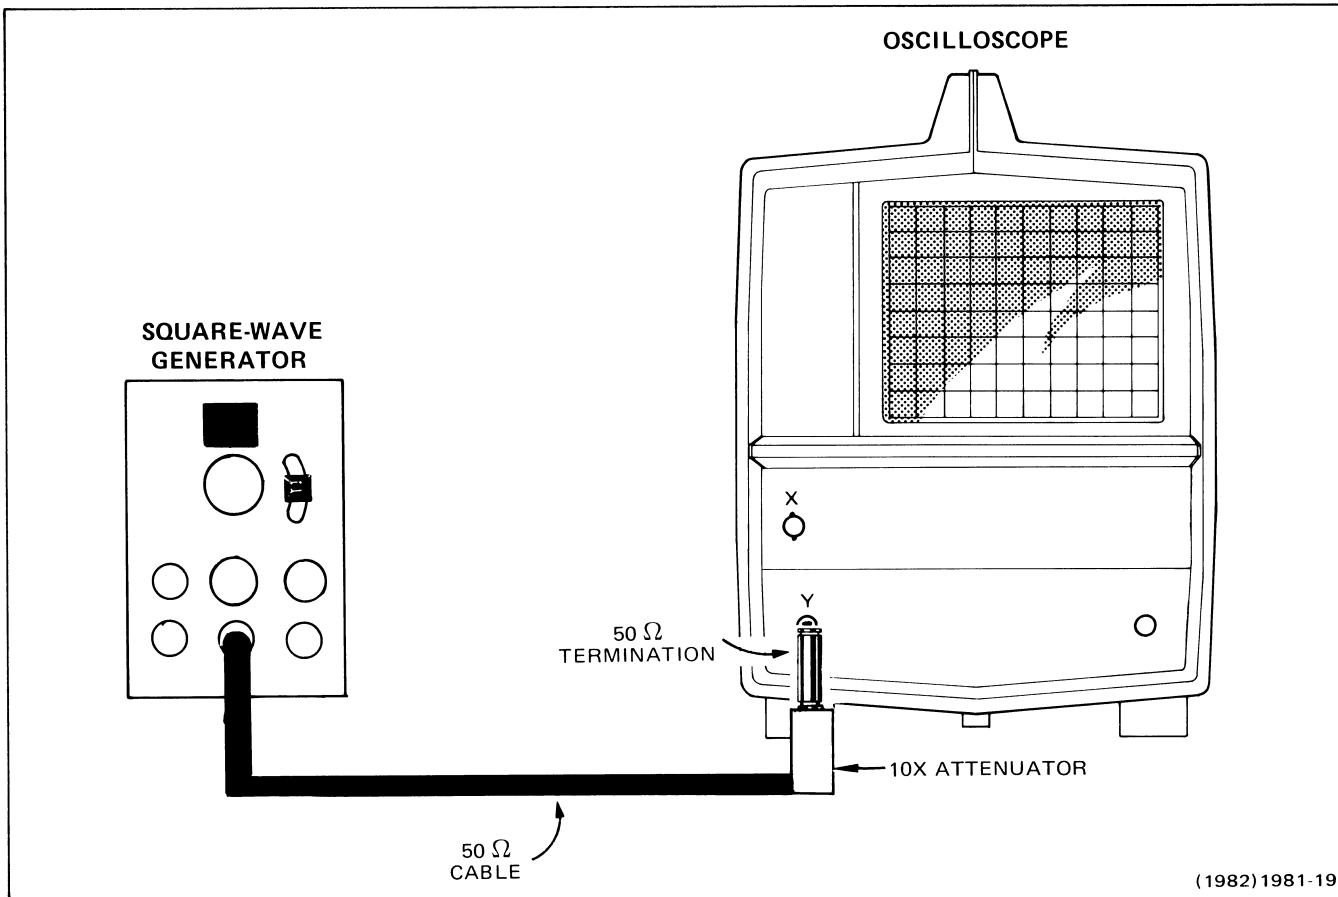

Fig. 4-5. High frequency compensation adjustment setup.
- b. Connect square-wave generator (fast-rise, + transition) to CH 1 input connector via 50 Ω cable, 10X attenuator, and 50 Ω termination (see Fig. 4-5).